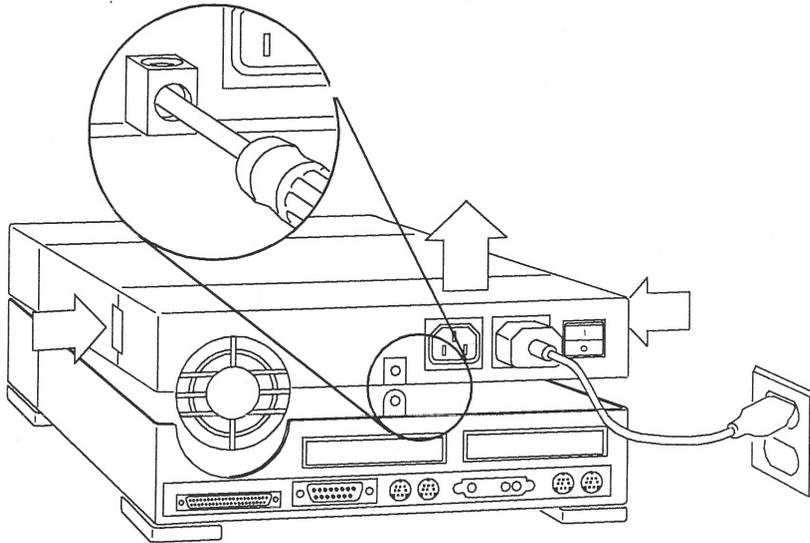

Figure 5-1 Opening the System Unit
- a. Remove the screw holding the lock block to the back panel. Refer to Figure 5-1.